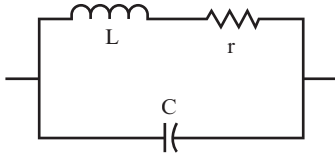

FIGURE 12.10
47. In the circuit shown in Figure 12.10, $L = 10 \text{ mH}$, $C = 0.02 \text{ }\mu\text{F}$, and $r = 7 \text{ ohms}$. Find f_r , X_L , X_C , Z , Q , and the bandwidth. _____